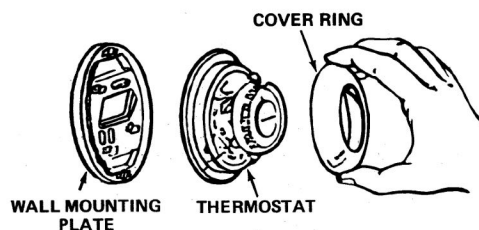

Fig. 8
2. Remove front cover of old thermostat (it will be a "snap-on" type or one that is held in place with screws.) (Fig. 8 & 9)